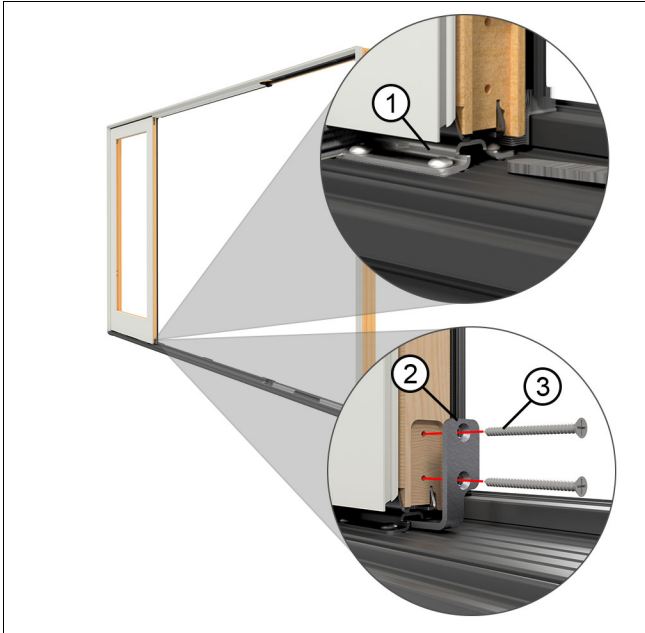

Figure 21 Performance sill shown (process for accessibility sill is the same).
6. Install the sill to panel bracket. Slide the sill to panel bracket under the frame sill bracket (already attached to the sill). Fasten to the stationary panel with #8 x 2" flat head screws provided. See Figure 21.